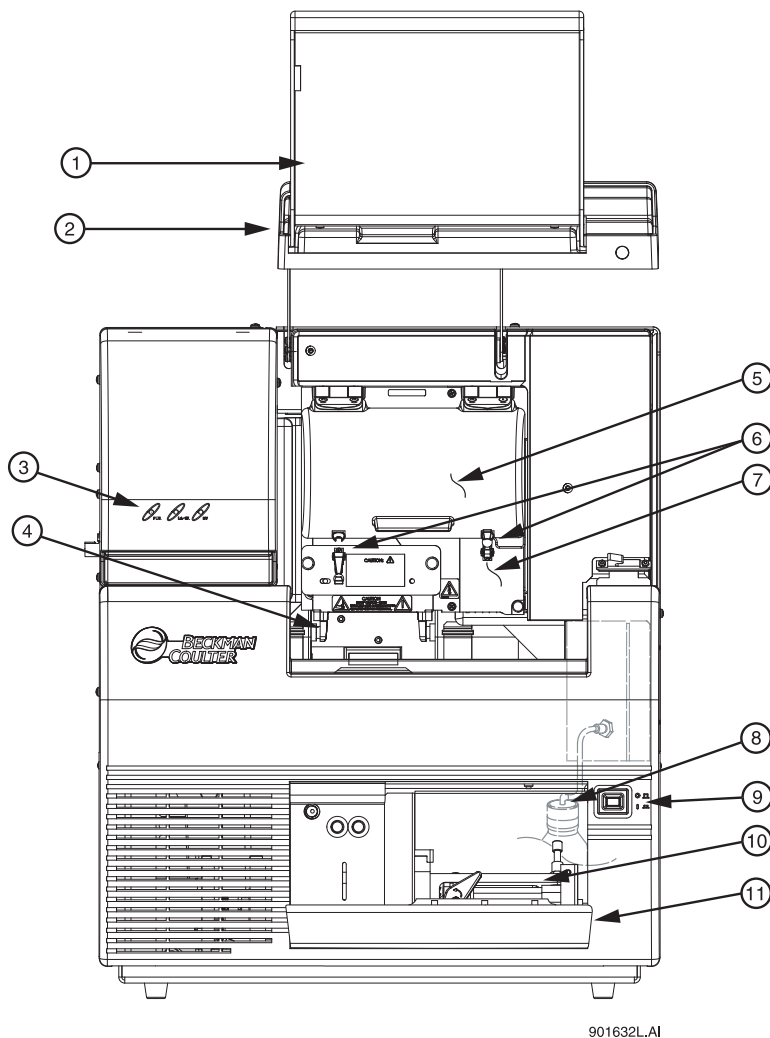

Figure 3.27 User Accessible Hardware Components
NOTE Use Figure 3.27, User Accessible Hardware Components, to locate hardware components referenced in this section.
4. Open the Sample Access Cover (Figure 3.27) and lift it to the vertical locking position.
3. Open the Sample Access Cover (Figure 3.27) and lift it to the vertical locking position.